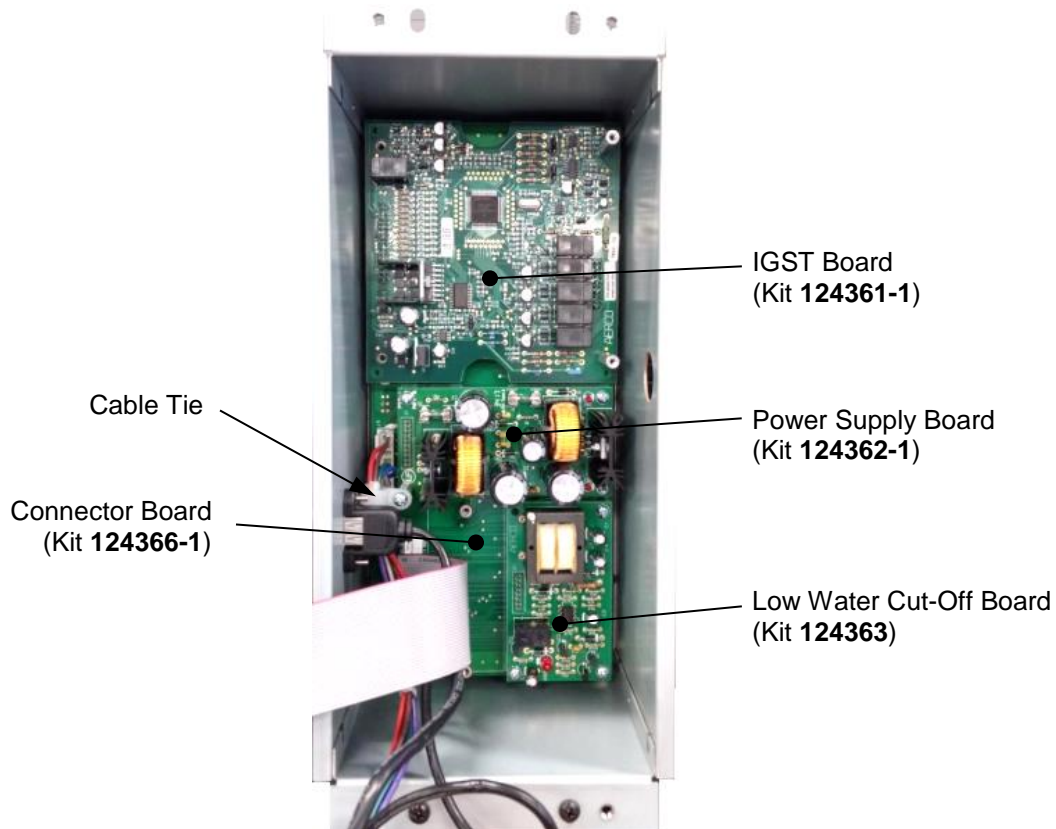

Figure 5 – Edge [i] Controller – IGST Exposed
2. Remove the four (4) screws or bolts holding the Edge Controller to the front face of the unit, then pull the Controller out of the unit and lay it on a clean, flat surface.
4. Remove the screw from the cable tie (see Figure 5, above), then disconnect the connector from the Power Supply Board.